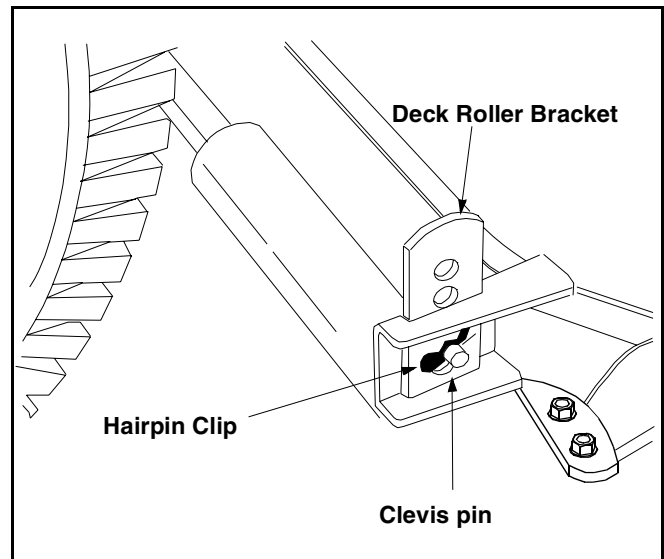

Figure 12
- Remove the clevis pins and hairpin clips from the deck roller brackets on the left and right sides of the cutting deck. See Figure 12.
- Position the deck roller brackets up or down through the slots on the rear of the deck until desired position is reached, then re-attach with the clevis pins and hairpin clips just removed. See Figure 12.